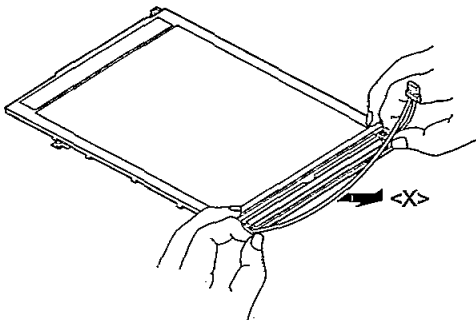

Figure 29
- (2) Remove the Lead Wires from the LCD Frame.
- (3) Remove the Lamp pulling Lead Wires while holding the LCD Frame in the direction arrow <X> as shown in the Figure 29.
- (4) Place the end of the Lamp onto the Frame underneath of the Reflection Sheet using a sharp tip tool.
- (5) While moving the Lamp in the direction <X>, cover the entire Reflection Sheet on the Lamp sliding a sharp tip tool along with the Reflection Sheet.
- (6) Put the Lamp Wires into the LCD Frame firmly.
- (7) Roll the edge of the Reflection Sheet onto the Lamp using a sharp tip tool.
- (8) While holding the rolled edge of the Reflection Sheet, move a sharp tip tool in the arrow direction <X> and roll up the entire Reflection Sheet to the Lamp.
- (9) Gently press the entire rolled Reflection Sheet to the Lamp.
- (10) Attach the Lamp Cover and tighten three screws <A>.
- (11) Tread the Wire to the opening.